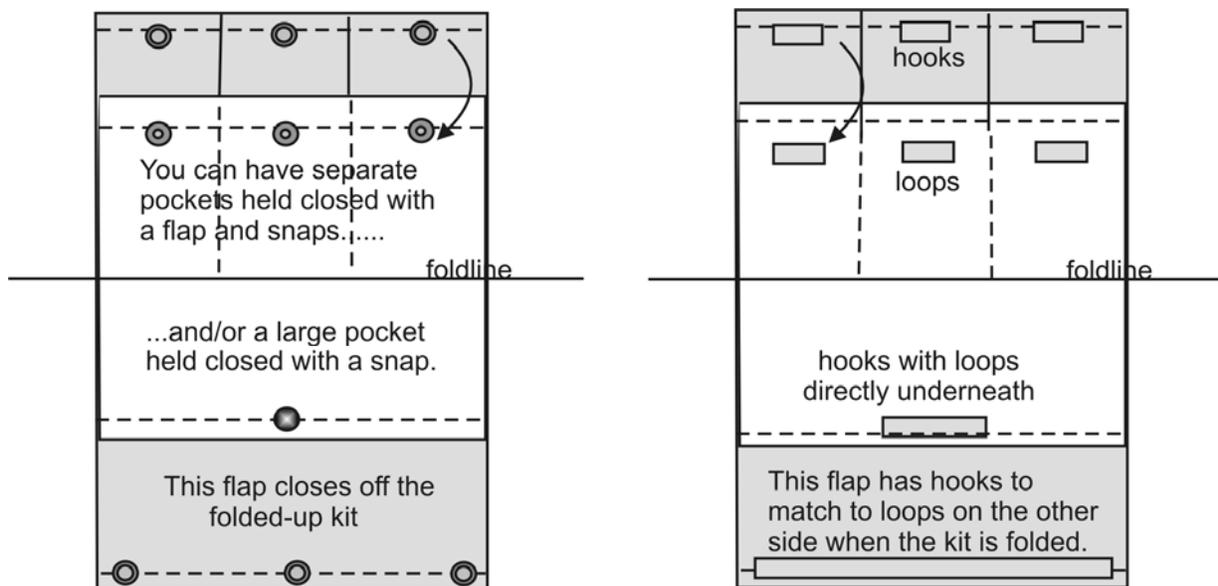

Fig 7-82 The whole kit folds in half and is held closed with snaps, velcro or even ties.
*Note – this pouch is meant to close with snaps. See Fig 7-82. If you want to use Velcro instead, then mark out where the divisions are to go (if any) for the pockets.